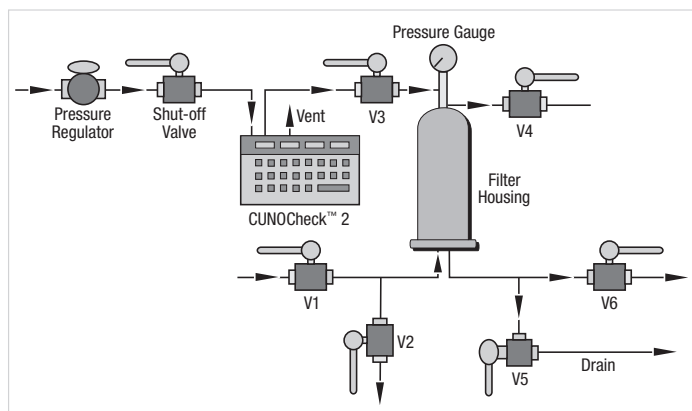

Figure 7. WIT (automated method).
The CUNOCheck 2 Automated Integrity Tester can be used to perform a WIT. When using the CUNOCheck 2 Automated Integrity Tester, follow the installation instructions for connecting the unit to the upstream valve as shown in Figure 7. Consult the appropriate 3M Purification Inc. literature for the test pressure and WIT value for the filter cartridge to be used and program these values into the CUNOCheck 2 Automated Integrity Tester when requested during the test set-up.
### 2. Procedure (Automated Testing — Figure 7)
- Configure the system as shown in Figure 7.